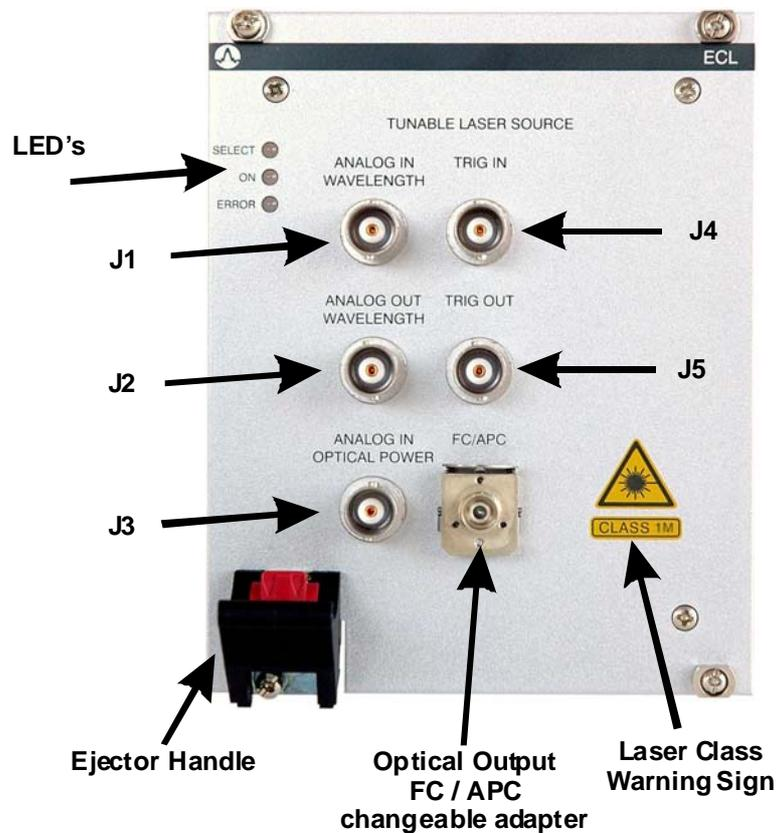

Figure 1 ECL5000D operating elements
- Loosen the four mounting screws on top and below the ejector handle (see Figure 1)